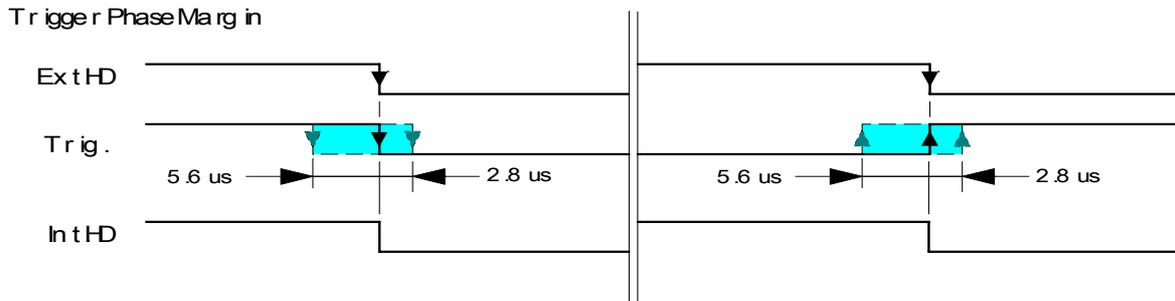

Fig. 18. Extern Trigger/HD Timing requirements.
The accumulation is HD synchronously accumulation. The accumulation starts at the first HD after the trigger leading edge. To avoid the <1H jitter caused by this delay, synchronize the external trigger falling and rising edge to HD as shown in fig. 18. below. The trigger level translations should be placed inside the 5.6 + 2.8 μseconds.
- The start of exposure will start synchronized to the internal H signal. The start may be shifted max 1H. To avoid this shift (1 H jitter), synchronize the camera to an external HD and make sure that the trigger pulse aligns to the HD as shown in fig. 18.
- With HC=0 the start of exposure will start synchronized to the internal H signal. The start may be shifted max 1H. To avoid this shift (1 H jitter), synchronize the camera to an external HD and make sure that the trigger pulse aligns to the HD as shown in fig. 18. With HC=1 the exposure will start immediately.
- The exposure will start synchronized to the internal H signal, the start of exposure may be shifted max 1H. To avoid this shift (jitter), synchronize the camera to an external HD and make sure that the trigger pulse aligns to the HD as shown in fig. 18.